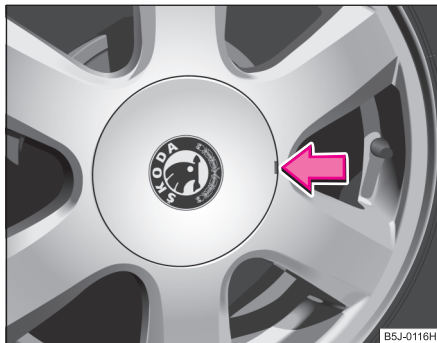

Fig. 157 Pulling off the wheel trim cap
- Carefully ⇒ fig. 157 lever off the wheel trim cap using the removal hook. ■